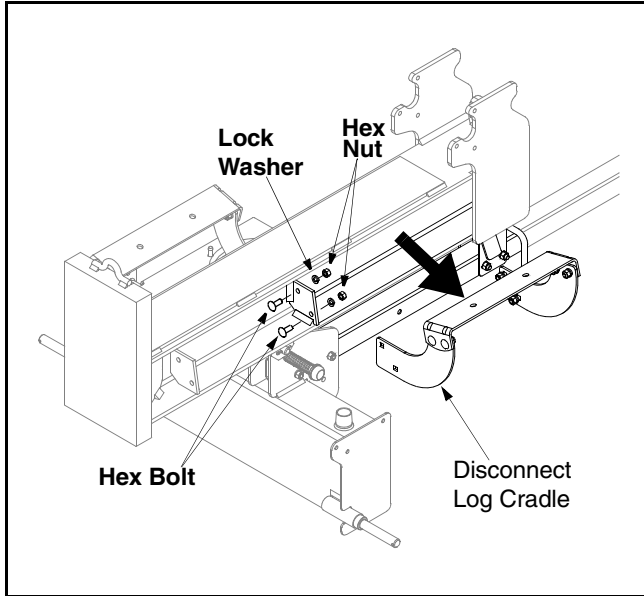

Figure 4
- Disconnect the log cradle from the beam on the side of the control valve. See Figure 4.